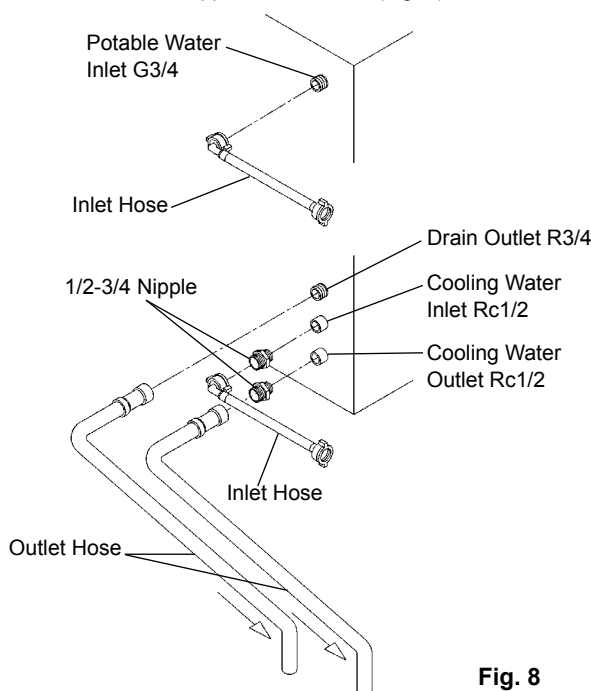

Fig. 8
## [b] Connections according to regulations other than WRC by utilising accessory hoses (Fig. 8)
2) For Condenser connections, use supplied accessory hoses and make the same connections as 1) to 3) in [a] above to the free ends of 1/2-3/4 nipples as indicated (Fig. 8).